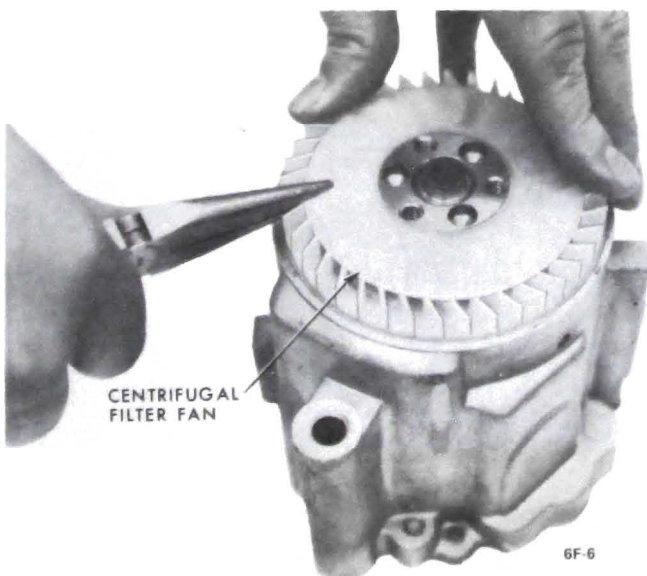

Figure 6F-13 Removing Centrifugal Fan From Hub
2. Insert needle nose pliers and pull fan from hub, as shown in Figure 6F-13. It is seldom possible to remove fan without damaging it. Care should be taken to prevent fragments from entering the air intake hole.